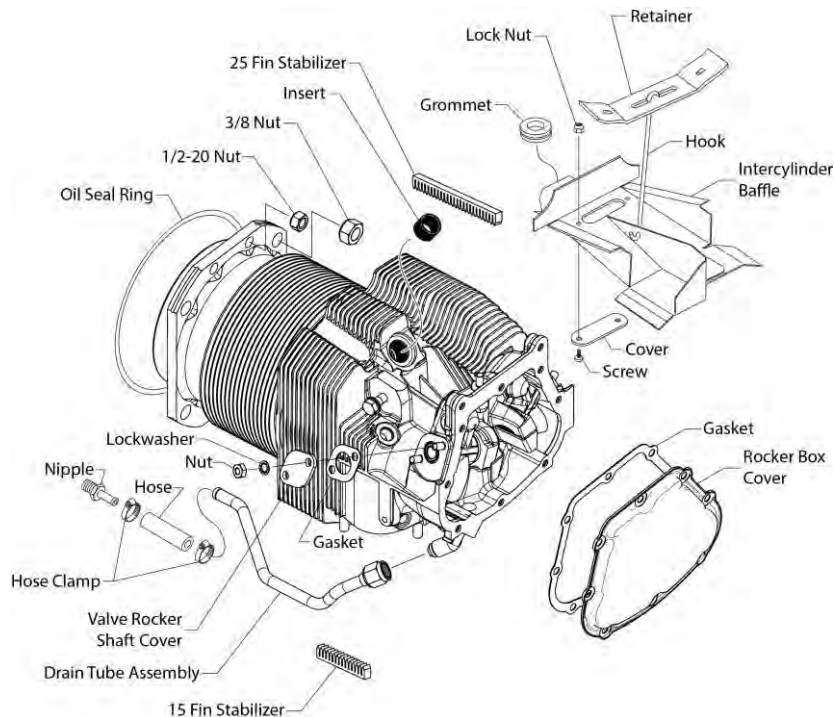

Figure 1
- A. Examine the cylinder and cylinder head (Figure 1) thoroughly for cracks, leaks, rust, pitting and/or damage. Replace a damaged, rusted, pitted, leaky or cracked cylinder per instructions in this chapter.
- D. Look for cracked or broken fins and baffles (Figure 1). If a cooling fin adjacent to the exhaust port flange is cracked, a 3/16 in. diameter hole can be drilled as a stop, under the following conditions:
- (1) There cannot be more than four blended fins on the push rod side of the head,
- (2) No more than six blended fins on the anti-push rod side of the head.